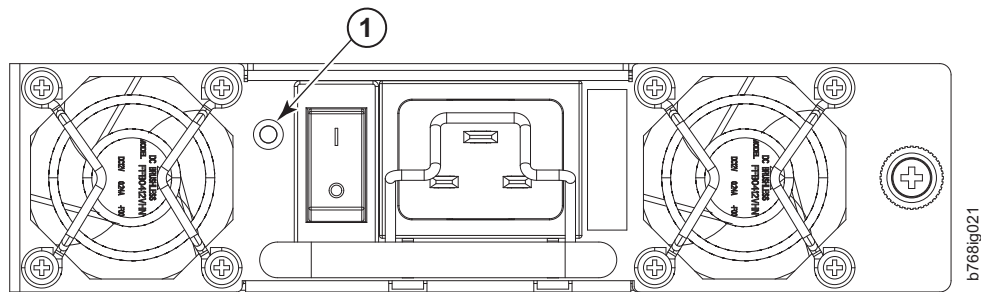

Figure 24. Power supply LEDs
1. Check the LED indicator on the power supply (see Figure 24). The LED patterns may temporarily change during POST and other diagnostic tests; for information about how to interpret the LED patterns, see Table 9 on page 61.